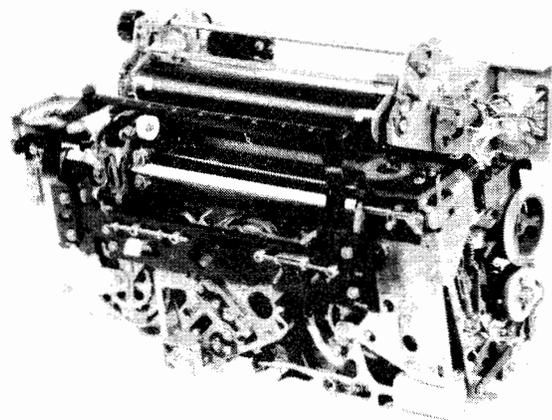

Figure 1 - 37 Typing Unit
1.10 Reference in the procedures to left or right, up or down, top or bottom, etc, refer to the unit as viewed facing the front plate assembly (Figures 1 and 2).